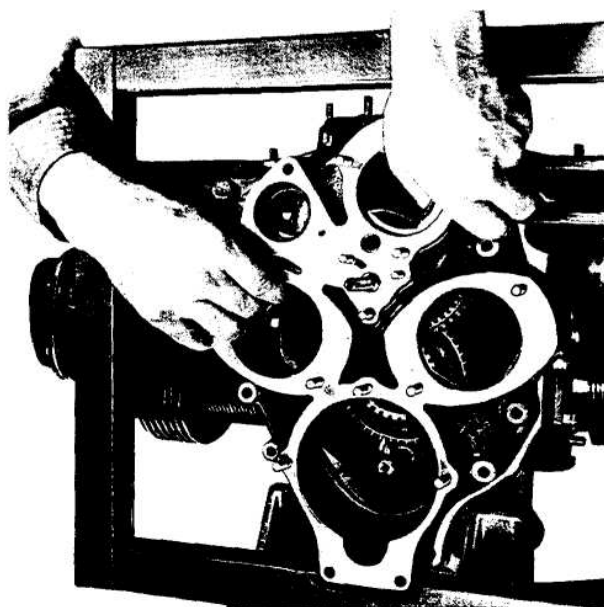

Figure 36. Installing Crankcase Cover on -12, -14, -16 and O-200 Models.
- g. Lower the crankcase cover subassembly over the studs, and seat it on the cover gasket, as shown in Figure 36, for -12, -14, -16 or O-200 models, turning the crankshaft slowly to align the oil pump drive.